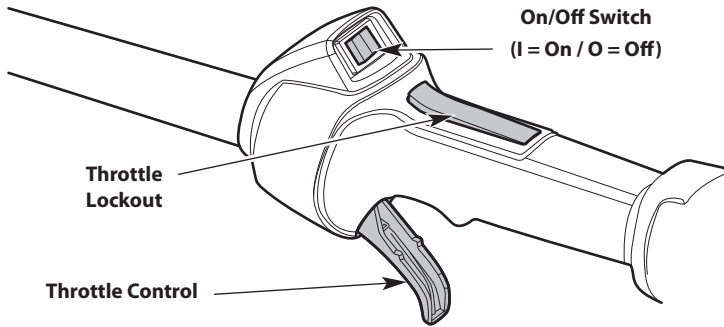

Fig. 10
NOTE: There is no need to turn the unit on. The On/Off switch is in the **On (I)** position at all times (Fig. 10).
4. Press and hold the throttle lockout. Squeeze and hold the throttle control (Fig. 10).
2. Press and hold the On/Off switch in the **Off (O)** position until the engine comes to a complete stop (Fig. 10).